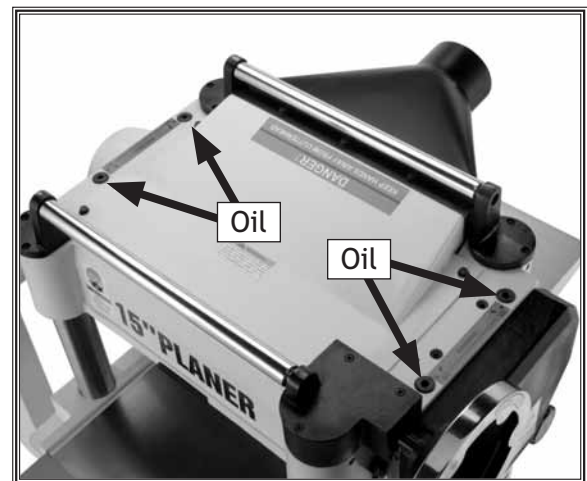

Figure 23. Feed roller lubrication.
- **Feed Rollers:** Lubricate feed rollers daily before start-up. **Figure 23** shows the lubrication points for the feed rollers. These are screws that have holes drilled through them to allow oiling. Make sure that dust is not trapped in these screws and apply two drops of light oil in each to penetrate the bearings. Do not lubricate more than this or the excess will end up on the floor.